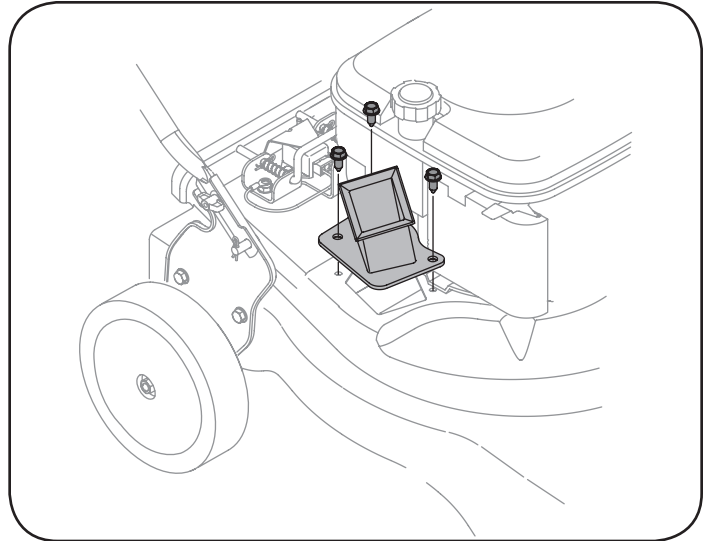

Figure 16
3. Remove the three hex cap screws holding the chipper chute to the upper housing. See Figure 16.